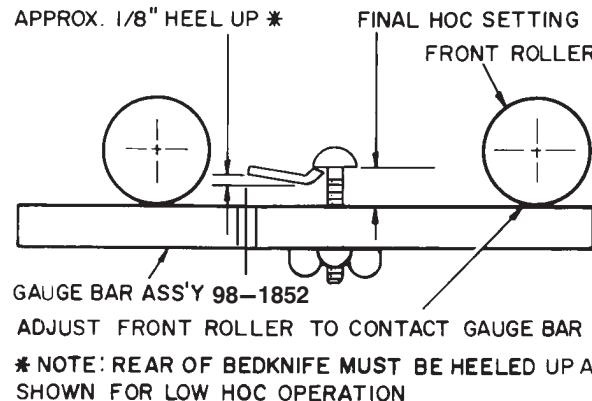

Figure 19
3. Loosen the gauge bar jam nut and adjust the first screw to set dimension between underside of screw head and gauge bar for desired height-of-cut. (Fig. 18). Tighten the jam nut to secure the adjustment. Hook screw head over cutting edge of bedknife and position bar against bottom of front roller (Fig. 19).
4. Loosen front roller nuts and adjust both ends of the front roller until it contacts gauge bar at both ends. With the gauge bar held firmly against the bottom of the rollers, adjust the front roller so the screw head just slips over the lip of the bedknife (Fig. 19). Tighten the front roller nuts.